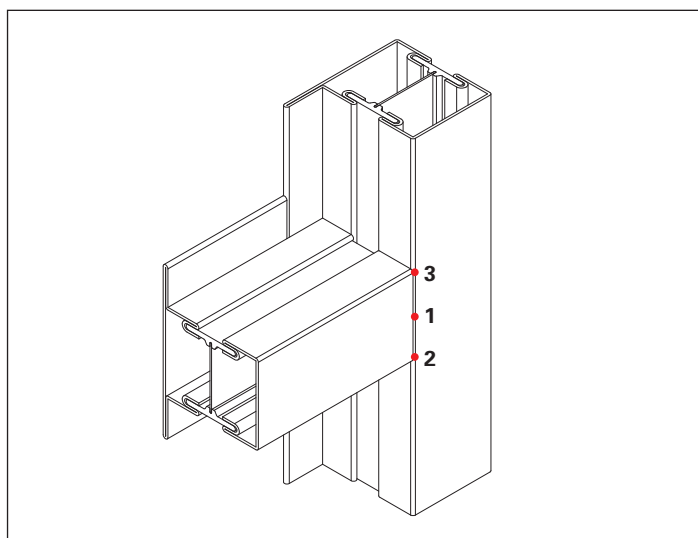

Fig. 88 Tack the T-mid-rails to the smaller surface every 20 to 30 mm (2-3) beginning in the centre (1)
5. Insert and tack any mid-rails (Fig. 88 / 89)